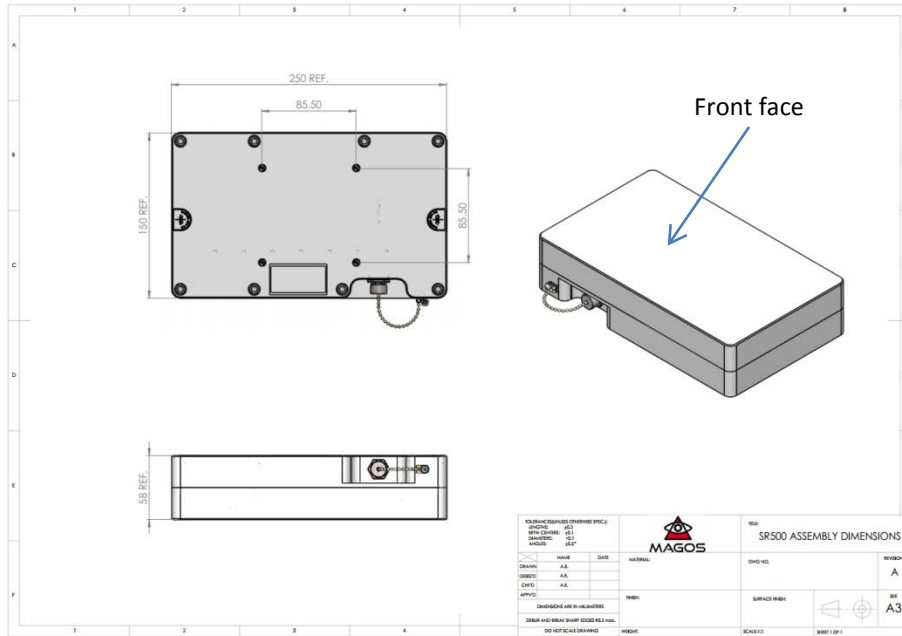

Figure 1 SR500 sensor outline and dimensions
- Figure 1 outlines the mechanical dimensions of the unit and mounting holes, the electronic connector location and the product "front". Holes are compatible to 1/4"-20X1/2 screws. Figure 2 and Figure 4 depict the product installation orientation. Note that product must be installed such that the product "front" face is aimed towards the horizon, perpendicular to the ground. Screws and mounting brackets can be purchased separately from Magosys. The brackets and their use are depicted in: Figure 4, Figure 5 and Figure 6.